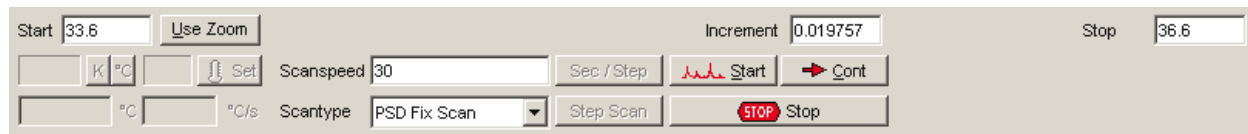
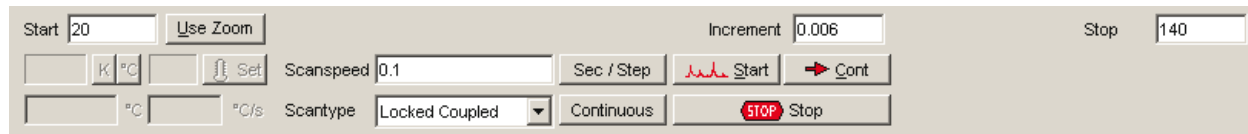

Figure 10.2 Example of measurement parameters for fixed scan
Figure 10.3 Example of measurement parameters for locked coupled scan
The following parameters must be selected prior to running a measurement: scan type, start, stop, speed, and increment (see Figure 10.2 and Figure 10.3). Additional settings may include divergence slit size, rotation of the stage, and generator settings for KV and mA.
2. Figure 10.2 and Figure 10.3 show the location of the parameters for different immediate measurements. The fields show the actual settings for the current measurement.